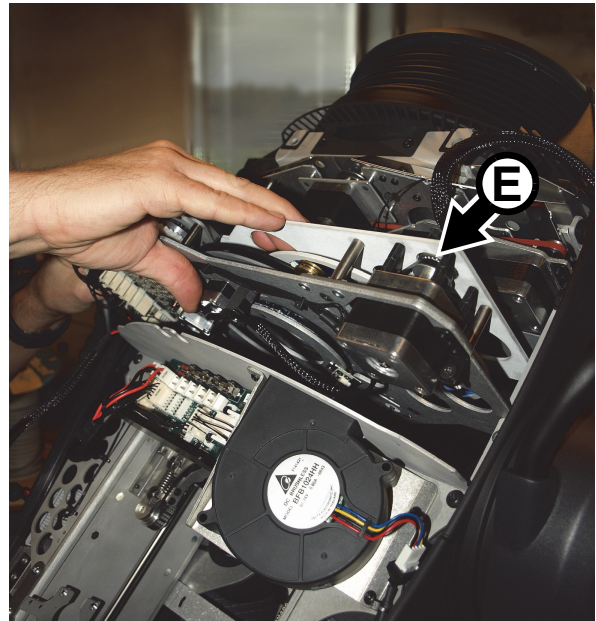

Figure 22: Removing effects module
6. See Figure 22. Lift the effects module **E** out of the head. Place it on a flat surface.